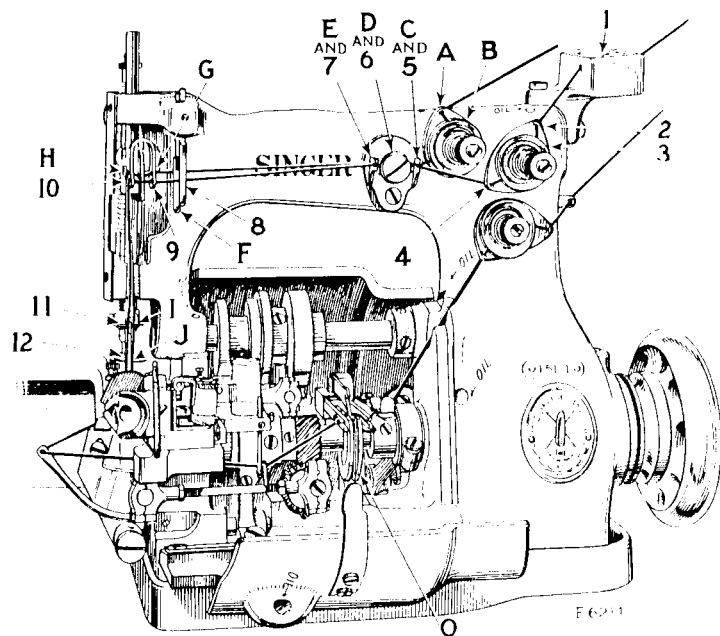

FIG. 6. THREADING THE NEEDLES
(SEE FIG. 6)
The silk thread, which is carried by the left needle, is lubricated as it passes over the wick contained in the oil cup (1, Fig. 6) at the top of the machine. This lubricant is generally a stainless oil and should be applied to the wick often enough to keep it saturated.
The looper thread take-up (O, Fig. 6, page 6) should be timed so that it commences to take up the slack thread from the looper when the looper begins its outward stroke. To time the looper thread take-up (O), loosen the set screw which holds it in position on the shaft and turn it until it is in the correct position as instructed above, then tighten the set screw.